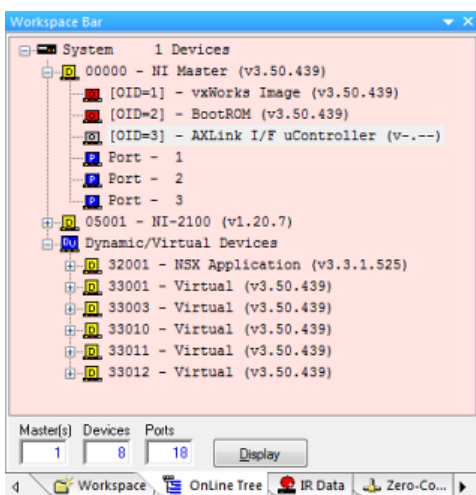

FIG. 7 Online Tree indicating a Serial Connection
10. Right-click the **Online Tree** tab entry and select **Refresh System**: the Controller should appear in the Device Tree (FIG. 7):